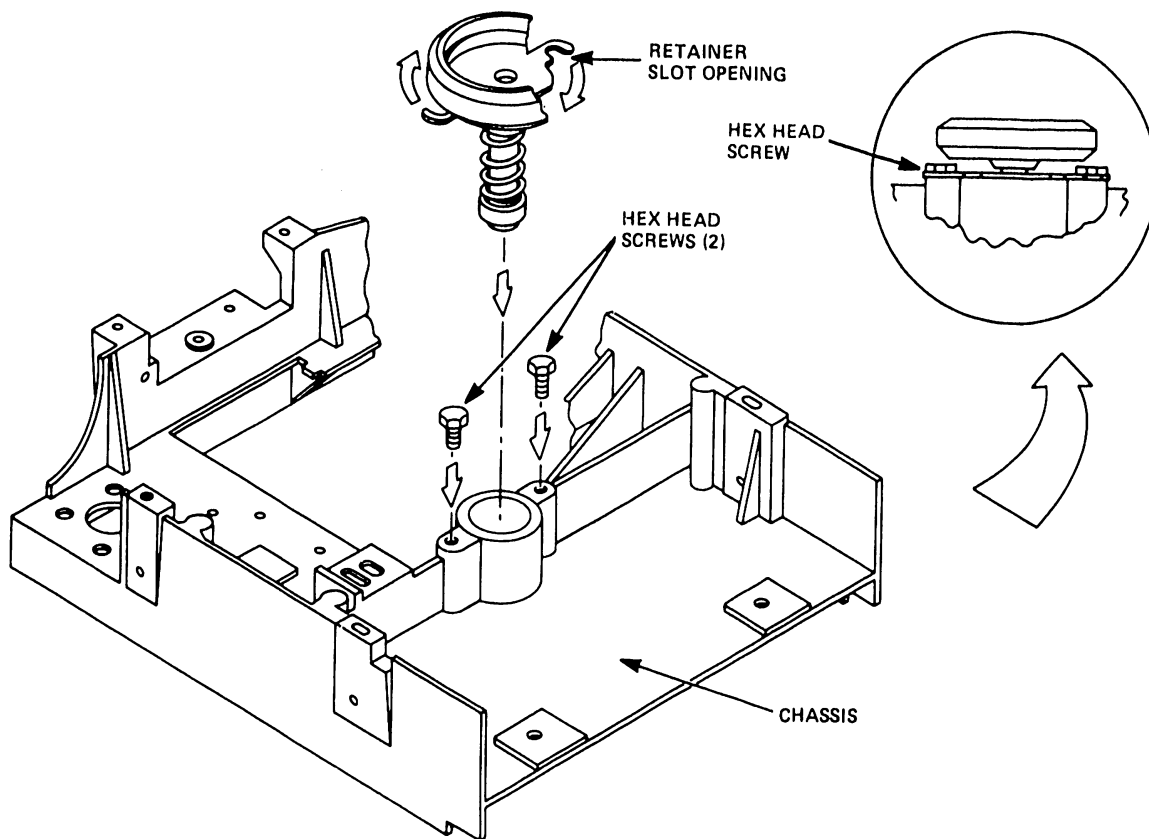

Figure 5-31
- 5.15.7 Using one-quarter (1/4) inch wrench, loosen the two (2) hex head screws that attach the Spindle Assembly to the top of the chassis (see Figure 5-31).
- 5.15.8 Rotate the retainer counterclockwise until its slot openings no longer are held by the two (2) hex head screws (see Figure 5-31).
- 5.15.10 Insert the new Spindle Assembly carefully into its mounting hole at the top of the chassis (see Figure 5-31).
- 5.15.12 Using a one-quarter ($\frac{1}{4}$) inch wrench, tighten the two (2) hex head screws that attach the bearing retainer to the chassis (see Figure 5-31).